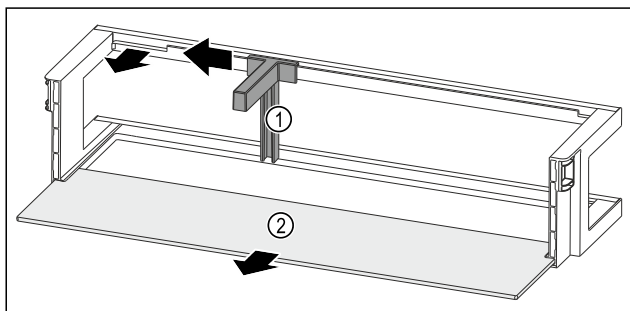

Fig. 57 Door rack with bottle holder and shelf
- Slide the bottle holder Fig. 57 (1) to the side as far as the recess.
- Remove the bottle holder Fig. 57 (1).
- Remove the shelf Fig. 57 (2).